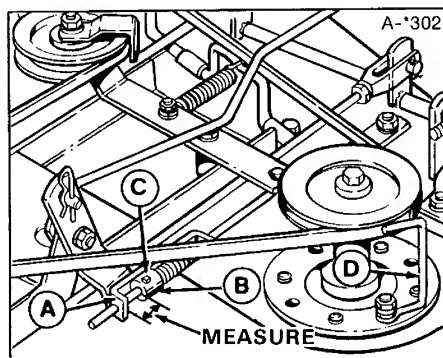
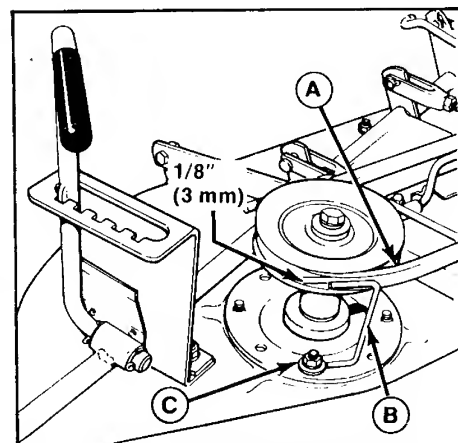

Figure 31. Drive Belt Tension
Figure 32. Right Arbor Belt Stop
mower in highest cutting position. Place the PTO lever in engaged position, the gap between the rod guide (A, figure 31) and the set collar (B) should measure  $3/8$  to  $1/2$  inch (10 to 13 mm). If not, disengage the PTO. Loosen the setscrew (C). Move the rod forward to increase the gap or back to decrease the gap then tighten the setscrew. Engage the PTO and recheck the adjustment. Readjust if necessary.
The arbor belt stops are item D in figure 31 and item B in figure 32. There should be  $1/8$  inch (3 mm) clearance between the belt stops and belt when the PTO lever is engaged. If not, loosen the nut, move the belt stop and retighten the nut.